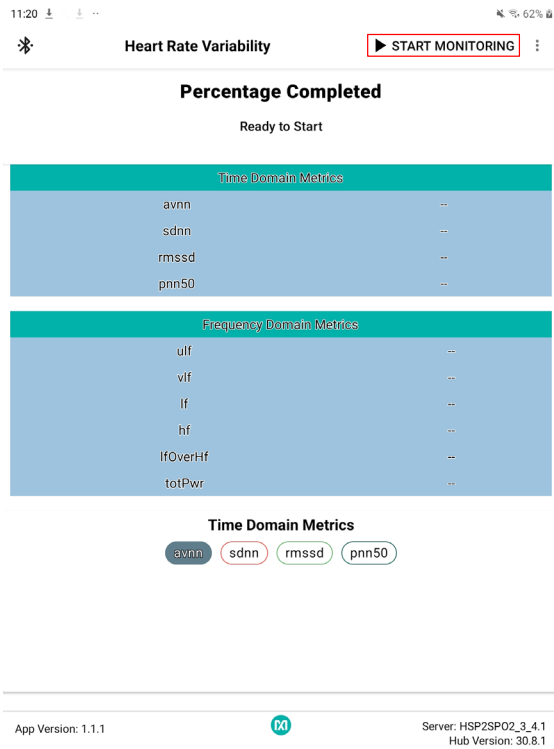

Figure 47. Start heart-rate variability measurement.
- Click the back button of the Android device to go back to the main menu and click **Heart Rate Variability**. The individual graphing of the avnn, sdn, rrmssd, or pnn5 data can be selected by selecting the button of interest and deselecting the other three. For instance, avnn is selected in Figure 47, and the other measurements are deselected. To start the heart-rate variability monitoring, click the play icon.